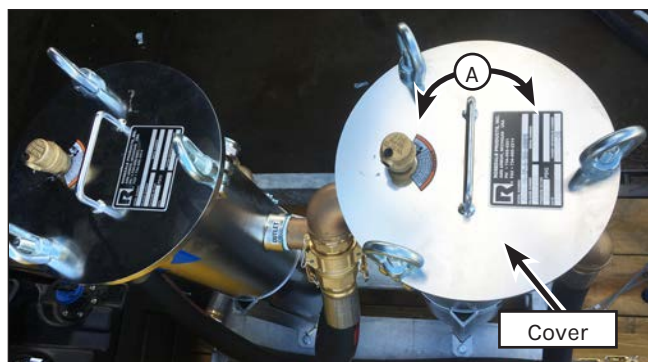

Figure 52: Filter Housing Cover
1. Loosen the 3 eye bolts (Figure 52) securing the filter housing cover and swing the lid open.